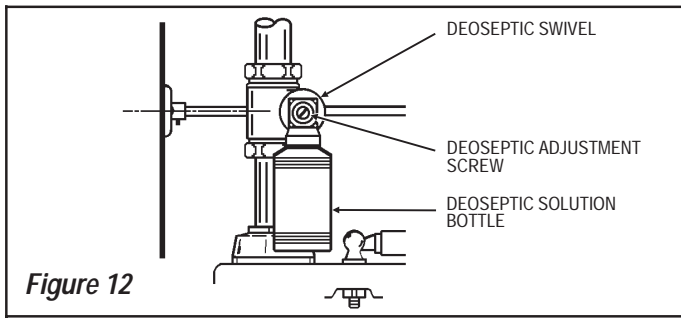

Figure 12
Step 11 — Adjust Volume of Solution Drawn from Deoseptic Bottle (Figure 12)